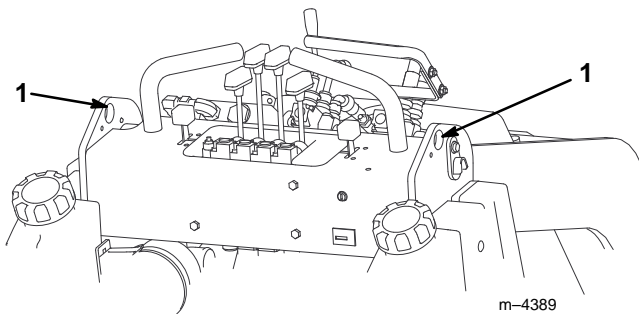

Figure 14
2. Lift the traction unit off the ground, using the two lift points (Fig. 14) and move onto a trailer.